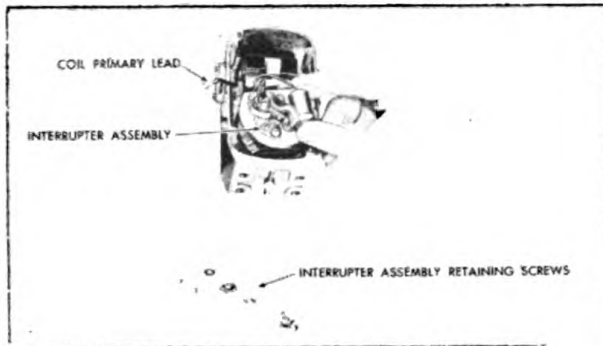

Figure 236. Interrupter Assembly.
B. Remove the interrupter assembly by withdrawing the two screws and locking plates. See Figure 236.
G. Loosely replace primary lead fastening screw and lockwasher (engaging interrupter lever springs and condenser lead) into insulated post of contact bracket. Place interrupter assembly on magnet rotor shaft and slide it into the recess of the magneto housing provided for this purpose. See Figure 236. The slot in the outer edge of the interrupter plate is to line up with the stake mark in the recess of the magneto housing. Drive interrupter plate fastening screws with washers and locking plates into place. Make certain that the two points on the narrow end of the locking plates grip the interrupter plate firmly.